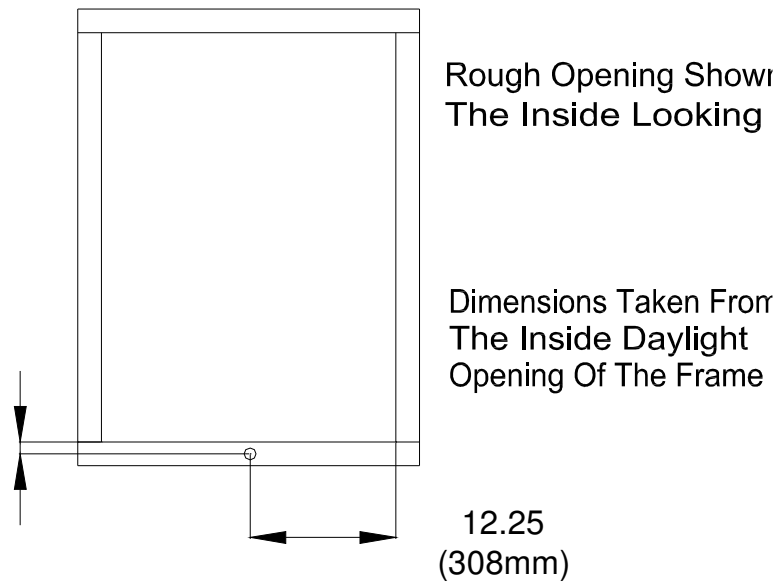

Figure 4
9. For Semi-Automatic installations, Drill a 1" hole through the wall as illustrated in Figure 4.
10. For Fully-Automatic, Drill a 1 ½" hole through the wall as illustrated in Figure 4.